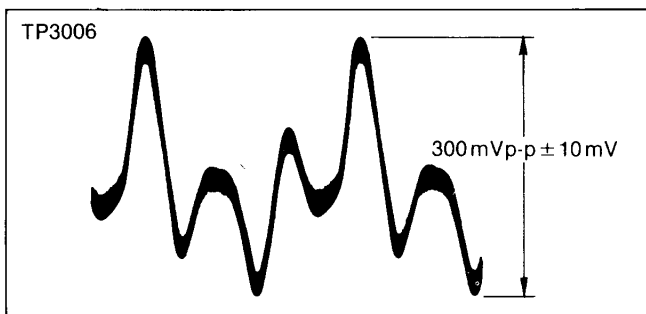

Figure E34
1. Set the signal generator (sine-wave) to 7MHz, 200mVp-p and supply it to TP3007 on the video (1) C.B.A.
3. Adjust VR3006 for 300 +/- 10mVp-p as shown in Figure E34.